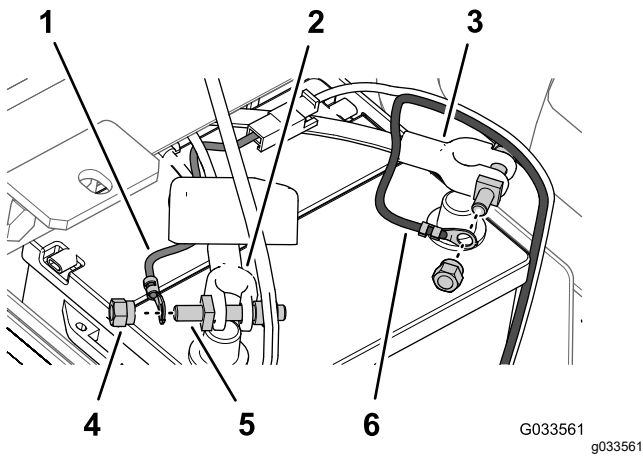

Figure 29
6. Secure the ring terminal of the fusible link (sprayer wire harness) to the post of the terminal bolt that you assembled to the positive battery cable with a clamp nut (Figure 29).
7. Secure the ring terminal of the negative wire (black—sprayer wire harness) to the post of the terminal bolt that you assembled to the negative battery cable with a clamp nut (Figure 29).